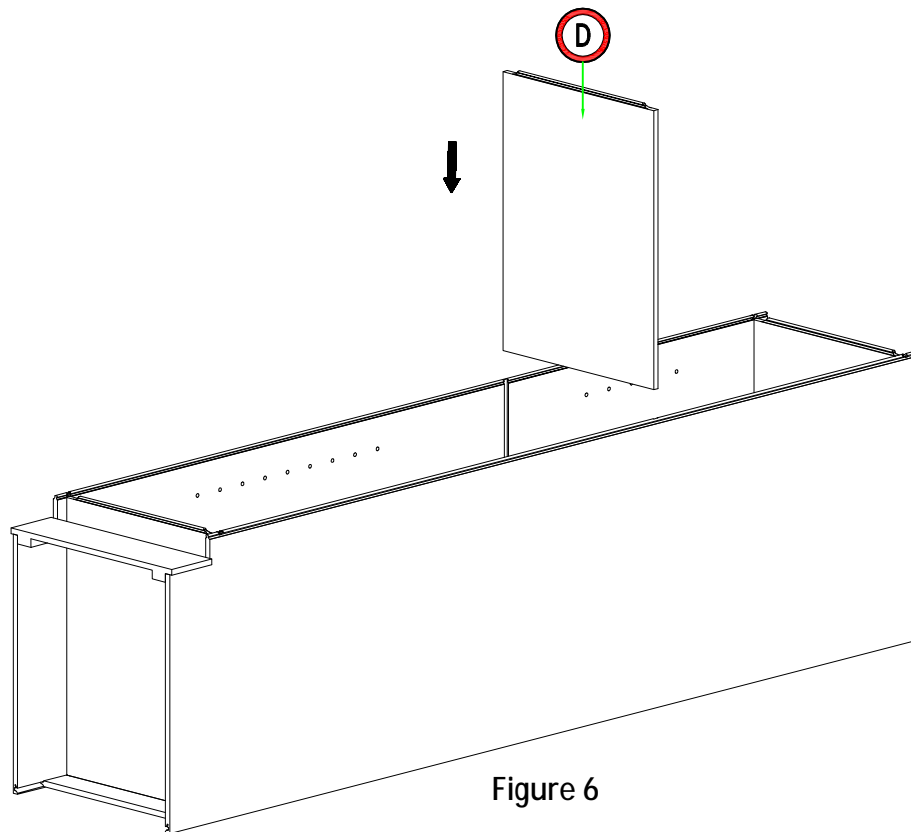

Figure 6
6. Install the center panel (D): Slide down the center panel (D) into the groove of the side panel (A), back panel (B) . Press down until they click into place. (Figure 6)
7. Install the frame: Insert the frame (F) into the groove of the side panel (A), top, bottom (C) and center panel (D) . Press down until they click into place. (Figure 6)